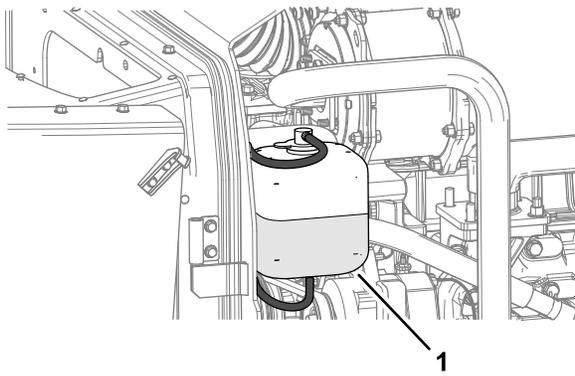

Figure 64
1. Check the level of coolant in the expansion tank (**Figure 64**).